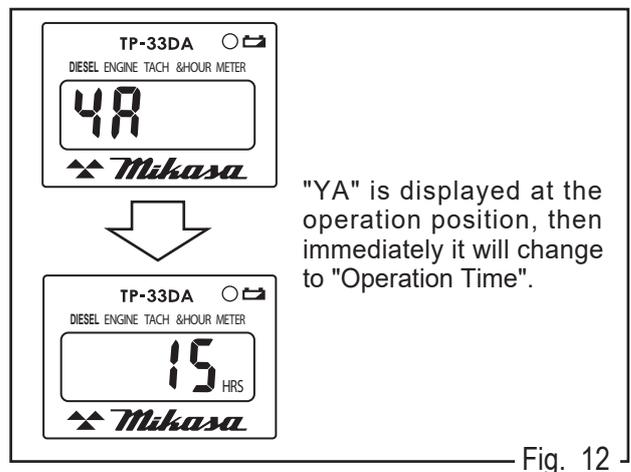

Fig. 12
- b. The buzzer starts. After "YA" is displayed on Tach & Hour meter, the display will change immediately to "Operation Time". (Fig.12)